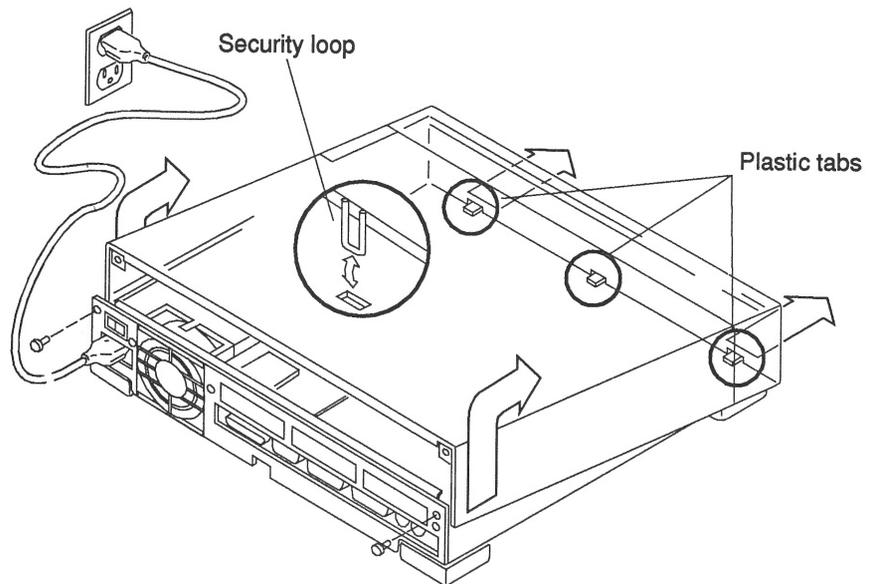

Figure 2-1 Removing the SPARCstation 2 Cover
2. Use a #2 Phillips screwdriver to remove the two screws holding the cover to the back panel. Refer to Figure 2-1.